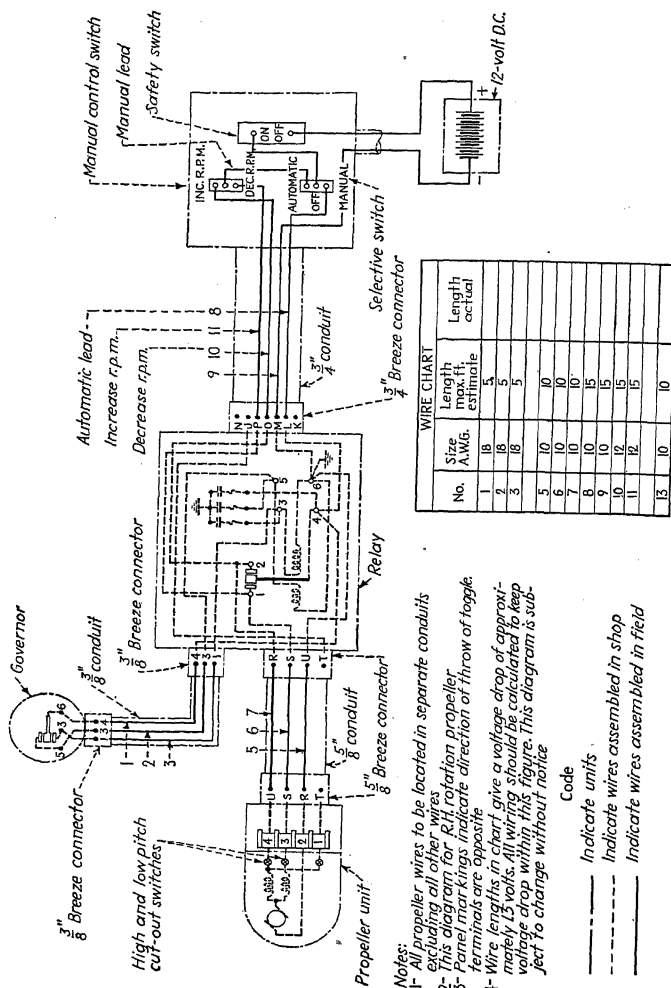

FIG. 63.—Wiring diagram for single-engine propeller.
Wiring diagrams for both single- and twin-engine planes are shown in Figs. 63 and 64. Wire charts showing the size in American wire gage and
**Wiring.**—Diagrams are shown in Figs. 63 and 64. 1. It is recommended that all propeller wiring be carried in separate conduits from the other airplane wiring.